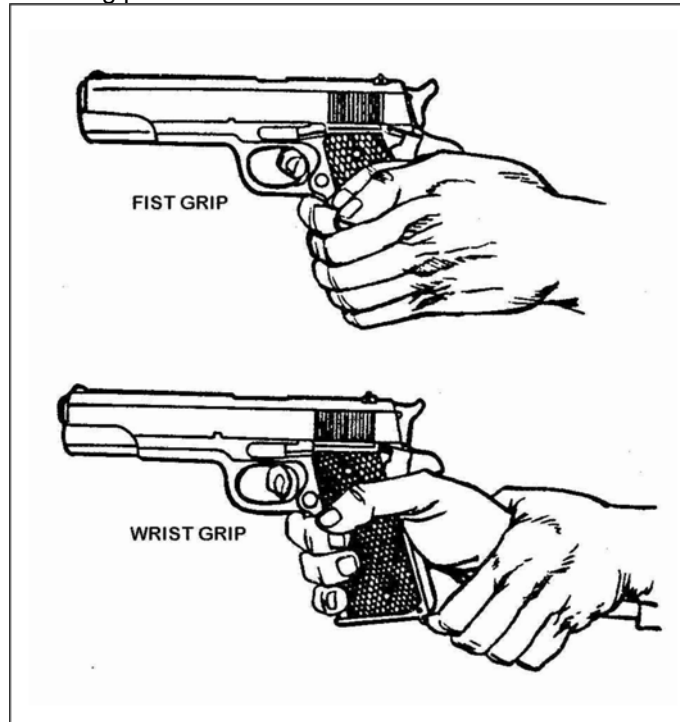

Figure 2. Nonfiring Hand Support
NOTE: The firing hand may be supported by using either grip for the nonfiring hand as shown in Figure 2.
- (1) Place the pistol in the vee formed by the thumb and forefinger of the firing hand with the sights in line with the firing arm. Wrap the lower three fingers around the pistol; grip with the middle finger under the trigger guard; grip with equal pressure on all three lower fingers to the rear back through the wrist and forearm (Figure 2).
- (2) Rest the thumb on top of the middle finger when gripping the pistol. DO NOT exert any downward pressure (Figure 2).
- (3) Grip the pistol firmly but not so firmly that it makes the hand tremble.